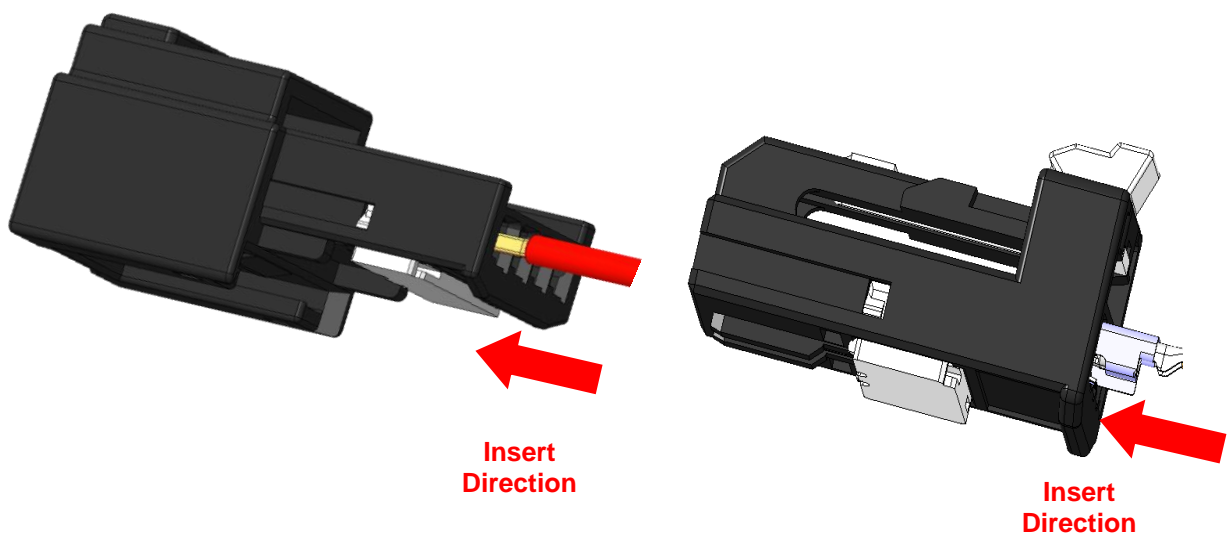

Fig. 8
(2) Insert each terminal into the cavity in the same direction as shown in Fig. 8. When the terminal is stuck and the insertion is stopped, the work is done.
(2) Fig. 8 에 보여지는 것과 같은 방향으로 각 단자를 Cavity 에 삽입하십시오. 단자가 걸려서 삽입이 멈추어지면 작업이 완료된 것이다.
(1) After all cavities are filled by Contacts properly, insert TPA into Housing to deep end and complete Final Lock condition as shown in Fig.8. Operation is completed when contact is latched and the insertion is stopped.